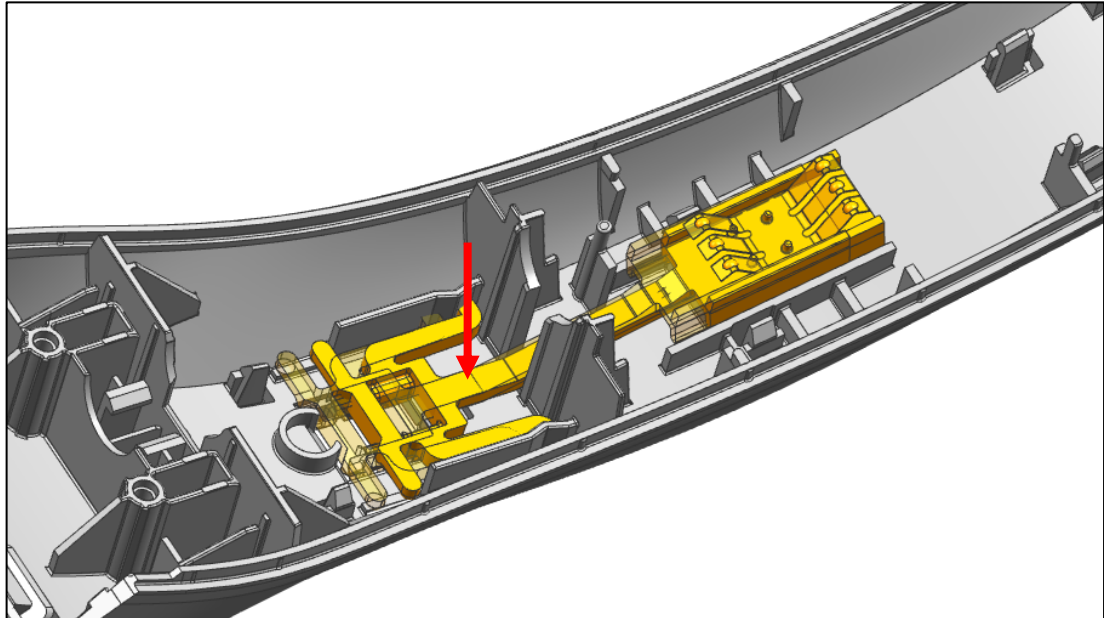

Fig. 25: rear switching position: orange (right)
- a) Place the switch lever (with caulked contact spring) in the upper housing in the rear switching position (Fig. 25).